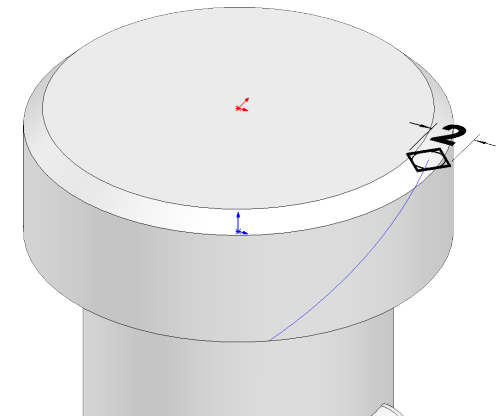

Fig. 72
Step 9. Dimension **opposite vertices 2**, **Fig. 72**.